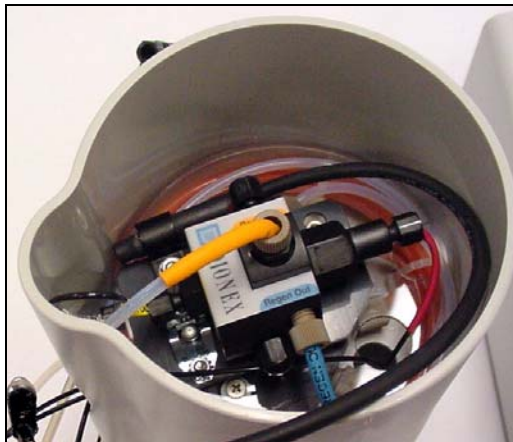

Figure 5-55. CR-TC Installed in Holder
10. Check that none of the lines are caught under the CR-TC and then push the CR-TC onto the metal stud inside the EGC holder. Push down until the CR-TC snaps into place (see Figure 5-55).